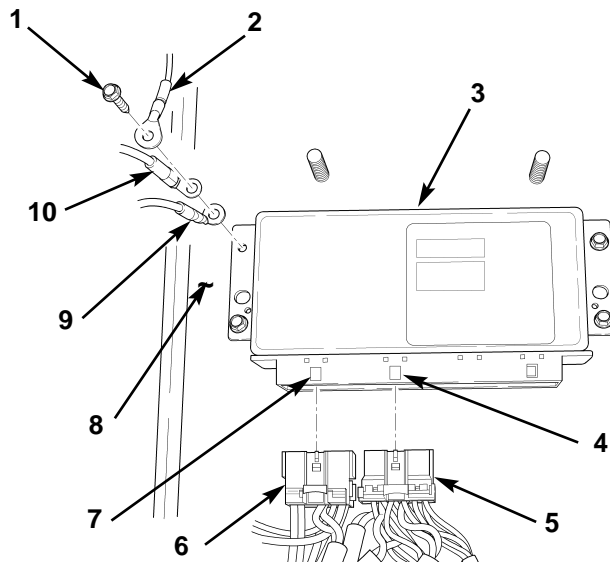

Figure 2. Disconnecting Harness from ECU.
3. Disconnect two ABS ECU harness connectors (figure 2, items 5 and 6) from two ABS ECU receptacles (figure 2, items 4 and 7).
4. Remove screw (figure 2, item 1) and three black ground wires (figure 2, items 2, 9, and 10) from ABS ECU (figure 2, item 3) and firewall (figure 2, item 8).